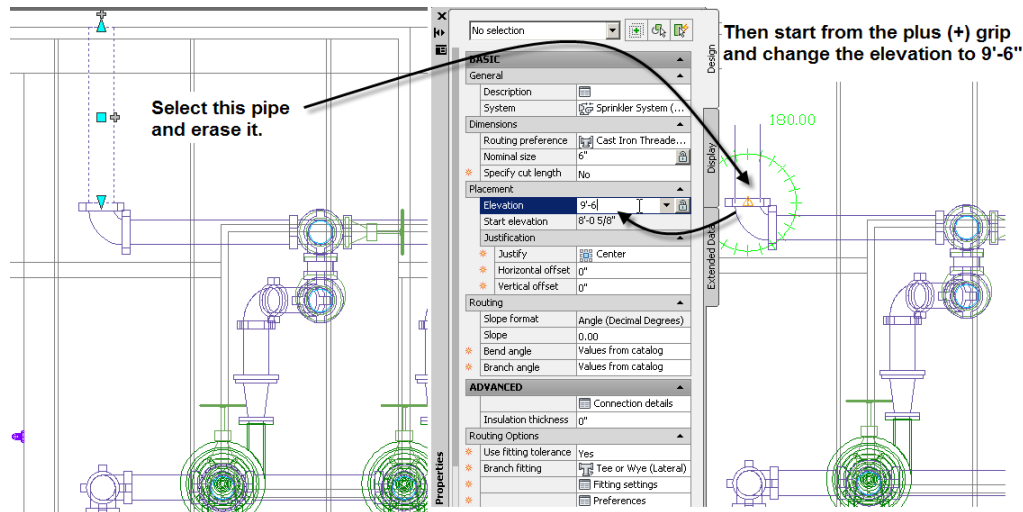

Figure 6.79
22. In the Front view, select the Fire Protection Pipe that goes up to elevation 12'-0" and erase it (see Figure 6.79).
23. Select the Coupling off the Elbow going up, and then click the plus (+) grip (see Figure 6.79).